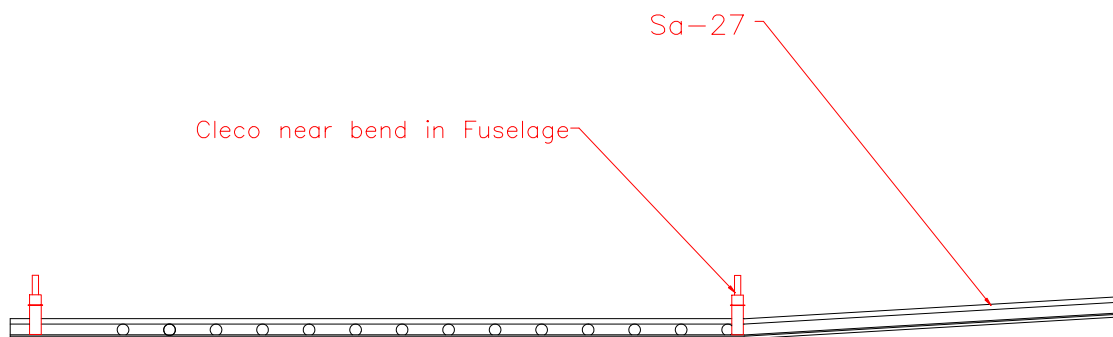

Figure 22.3.3
5) Keep the track parallel to the fuselage. Drill and cleco next to where the track will bend with the floor. Figure 22.3.3. **NOTE:** You will have to mark where the bend will start on the seat rail and bend part in a vise.